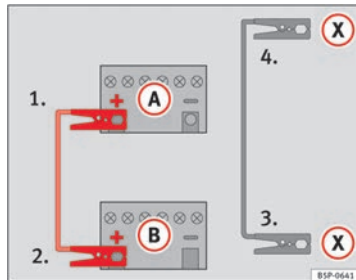

Fig. 170 Diagram of connections for vehicles with Start-Stop system
- Connect one end of the *red* jump lead to the positive \oplus terminal of the vehicle with the flat battery $\textcircled{A} \Rightarrow$ Fig. 170.
- Connect one end of the *black* jump lead \textcircled{X} to a suitable ground terminal, a solid piece of metal in the engine block, or to the engine block \Rightarrow Fig. 170.